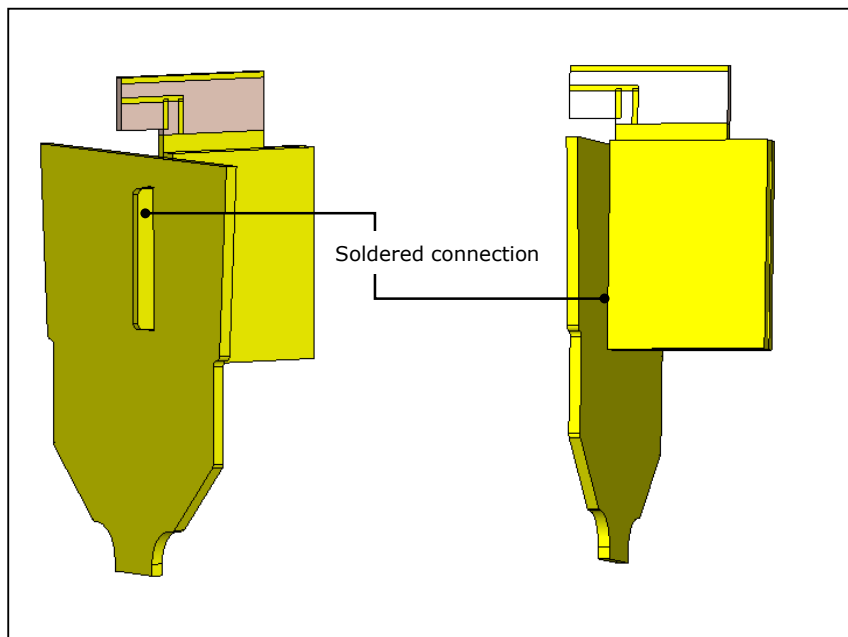

Figure 9 - Mounted 90 degree angle
- Wave solder the 6 pin connector to the right in a 90° angle to the carrier board. See Figure 9 - Mounted 90 degree angle.